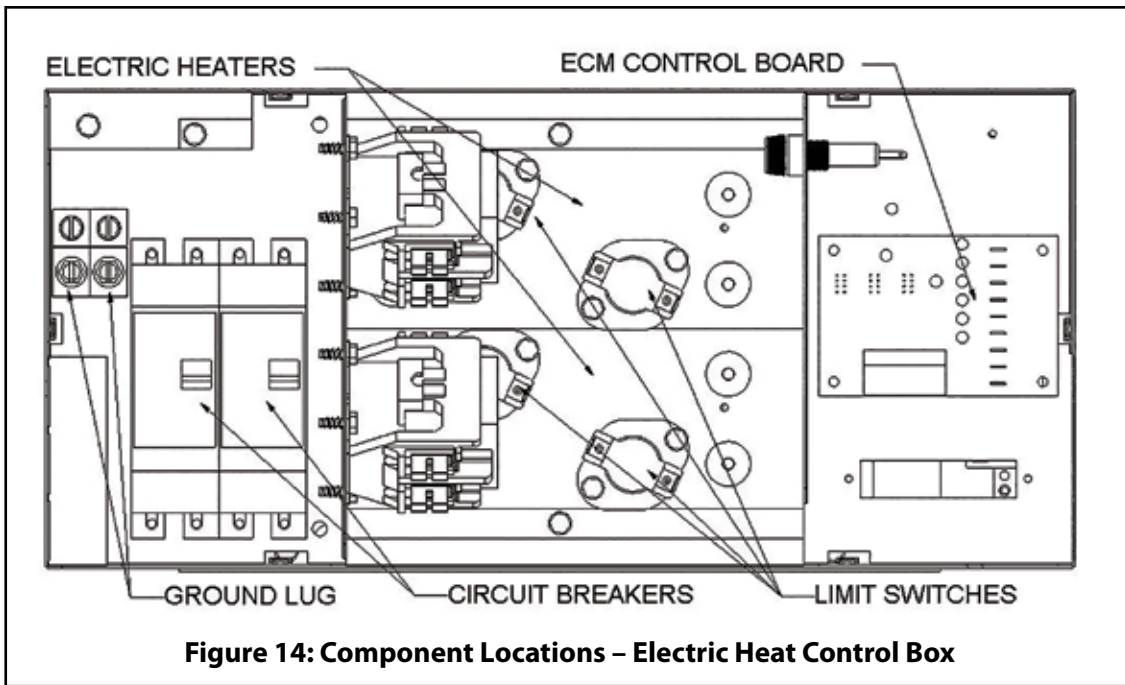

Figure 14: Component Locations – Electric Heat Control Box
8. If a single circuit is being used for a 5 kW, 10kW, 15kW or 20kW model, install a BLACK jumper wire from the L1 terminal on circuit breaker #1 to the L1 terminal on circuit breaker #2 and a WHITE or RED jumper wire from the L2 terminal on circuit breaker #1 to the L2 terminal on circuit breaker #2. Refer to Figures 14, 16, and 17 for circuit breaker locations.